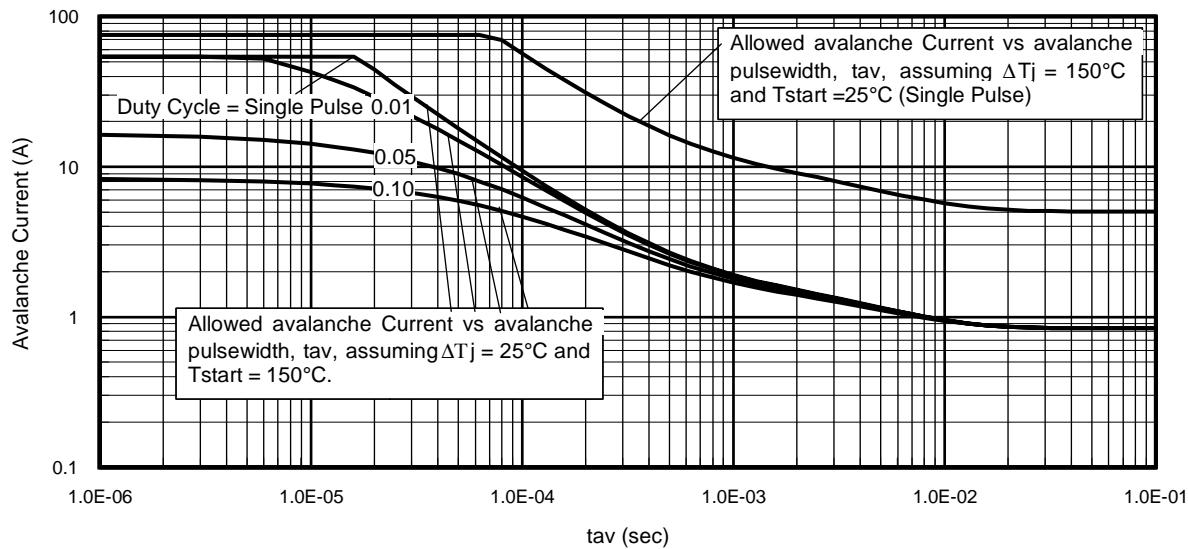

Fig 14. Typical Avalanche Current vs.Pulsewidth
| I _{AR} | Avalanche Current ① | See Fig. 14, 15, 16a, 16b | A |
Notes on Repetitive Avalanche Curves , Figures 14, 15:
- ΔT = Allowable rise in junction temperature, not to exceed T_{jmax} (assumed as 25°C in Figure 14, 15).